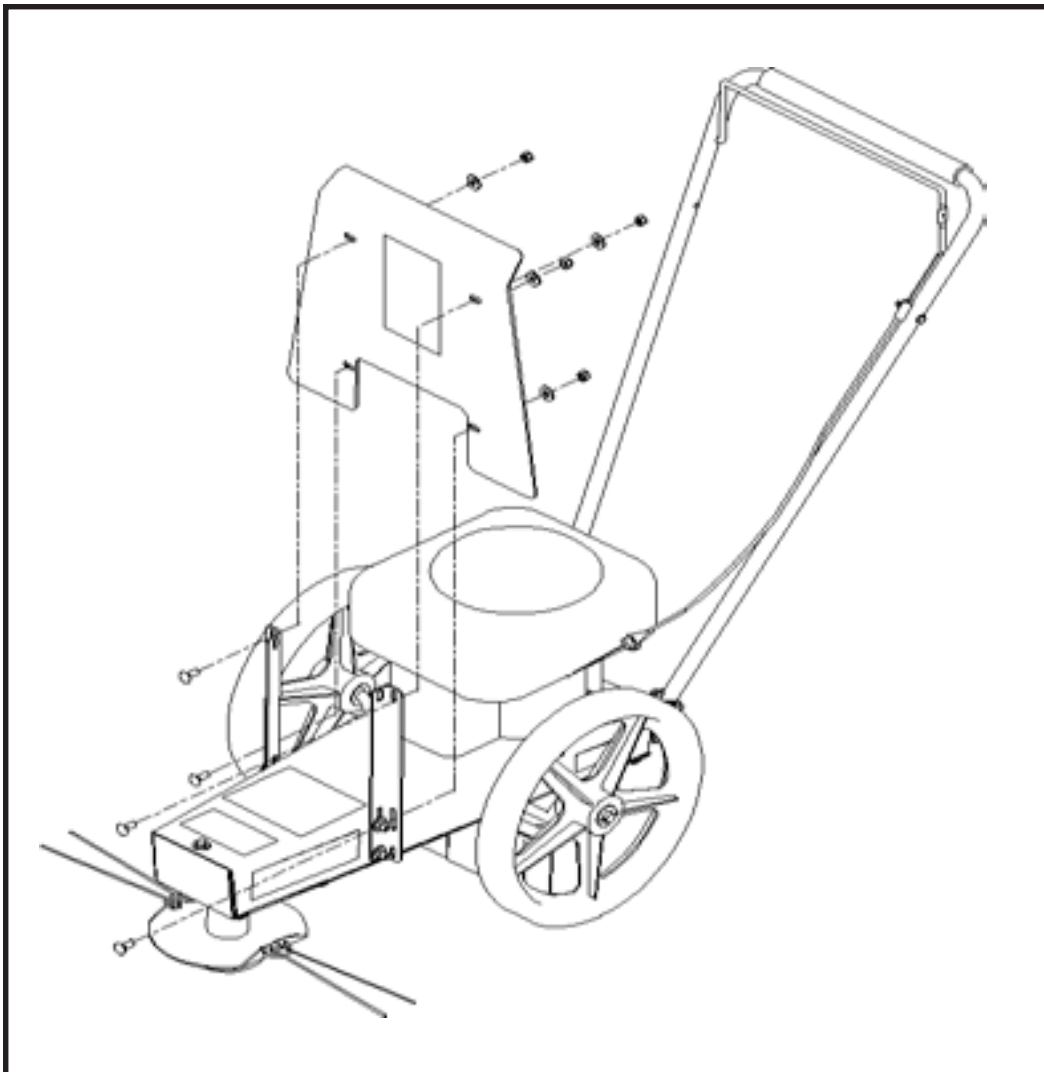

Figure 3
9. Attach the shield. Thread bolts through holes in shield as shown in Figure 3.